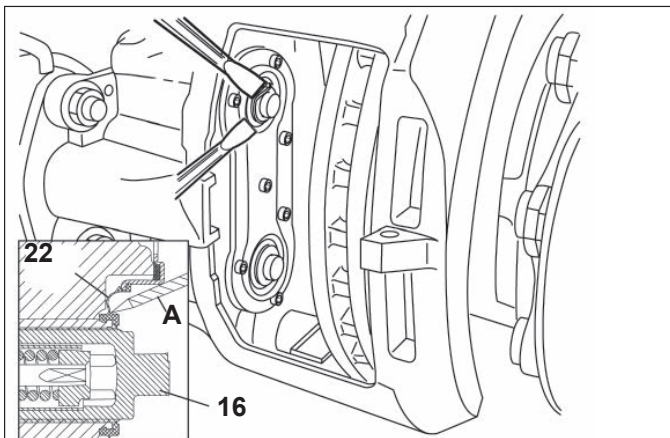

Figure 49 – Inner Seal Removal
5.5.8 See Figure 49. Carefully remove the inner seal using one or two flat-blade screwdrivers as shown. Caution: Do not insert the screwdrivers so far that they come into contact with the threaded tubes. Damage to the threaded tubes would require that the brake be replaced.